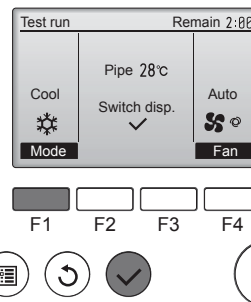

Fig. 5-5
- ① Press the **F1** button to go through the operation modes in the order of "Cool" and "Heat". (Fig. 5-5)